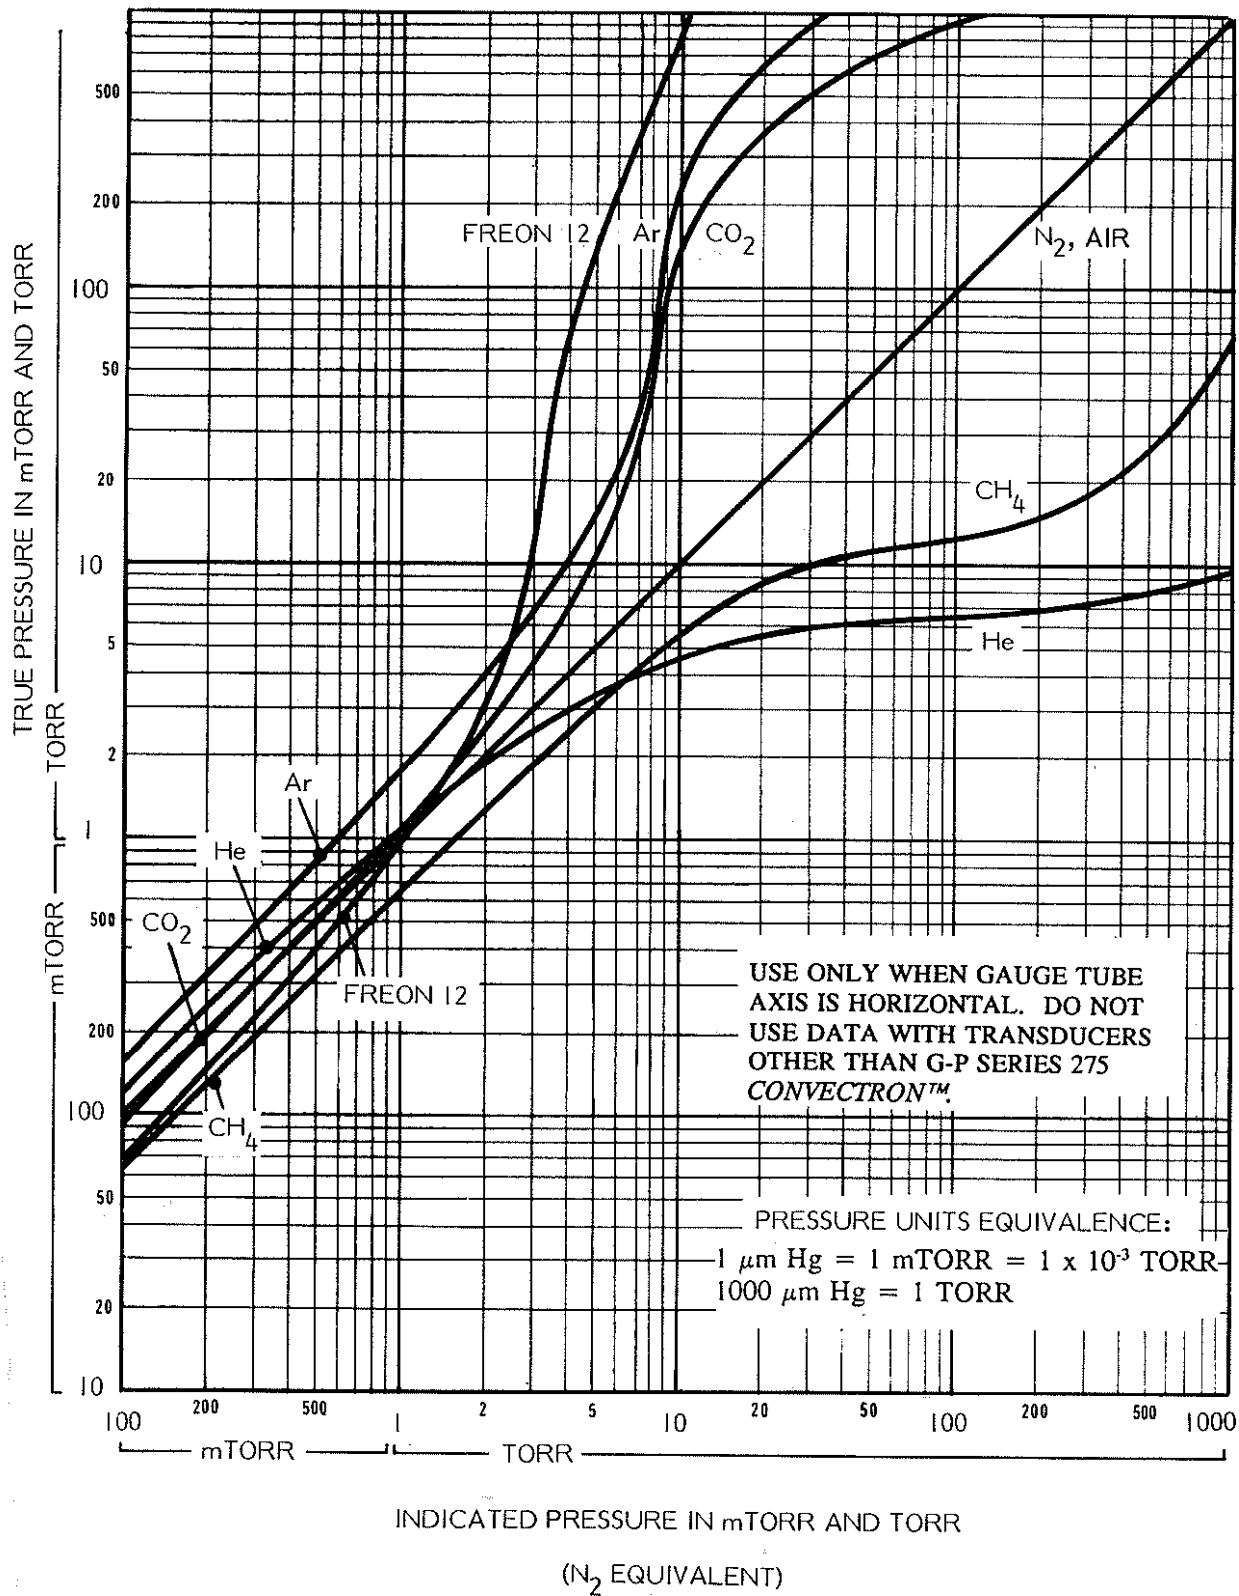

Figure 3-6. Conversion Chart 0.1 to 1000 Torr
- a. Assume that a true pressure of 20 Torr of CO₂ is the desired process control set point. On Figure 3-6, locate 20 Torr on the true pressure scale. Read horizontally to the right to the intersection of the 20 Torr line and the CO₂ curve. Reading the horizontal axis, this point is 6.5 Torr, indicated pressure (N₂ equivalent). Thus the correct process control setting for 20 Torr of CO₂ is 6.5 Torr, N₂ equivalent.
- b. Assume that it is desired to obtain a He pressure of 100 Torr in the system. On Figure 3-6, locate 100 Torr on the true pressure scale. Read horizontally to the right to intersect the He curve. Because the intersection of the 100 Torr line and the He curve is off scale, it is apparent that a true pressure of 100 Torr of He exceeds the capability of the system and cannot be measured.